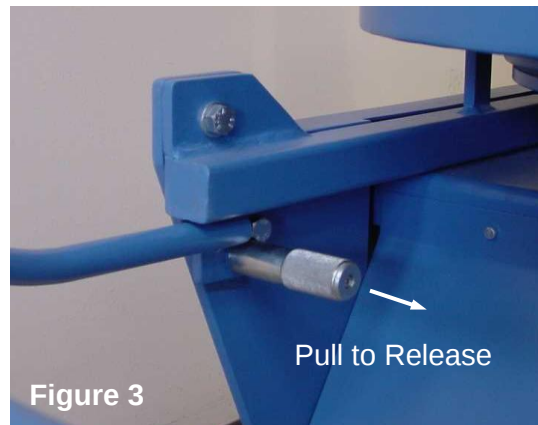

Figure 3
- 3.5 The manoeuvring handle locks in the raised position and must be lowered before mixing. It is lowered by disengaging the spring loaded locating plunger on the left hand side of the frame (Figure 3).